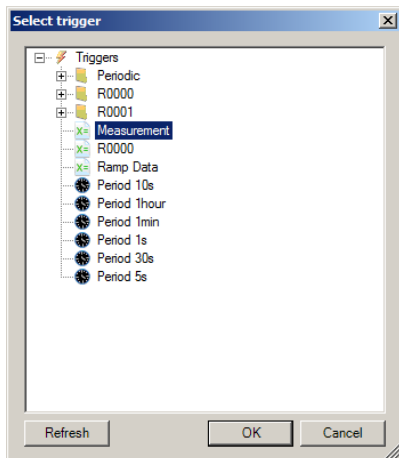

Figure 3 Select the Measurement Trigger
4. Click on the button for the Trigger selection to open the trigger browser as shown in Figure 3.